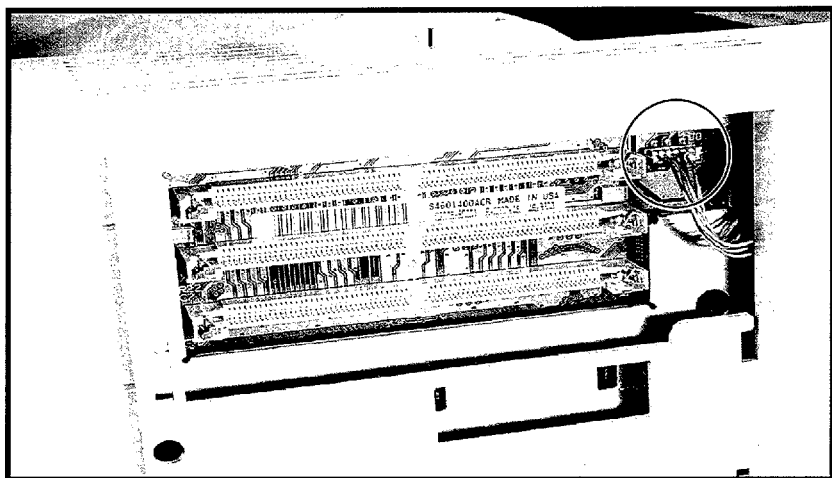

Figure 6-7 Control Panel Connector Location (LaserJet 4P/4MP)
4. Unplug the front panel cable connector (to the right of the topmost SIMM slot on the Formatter PCA - Figure 6-7).